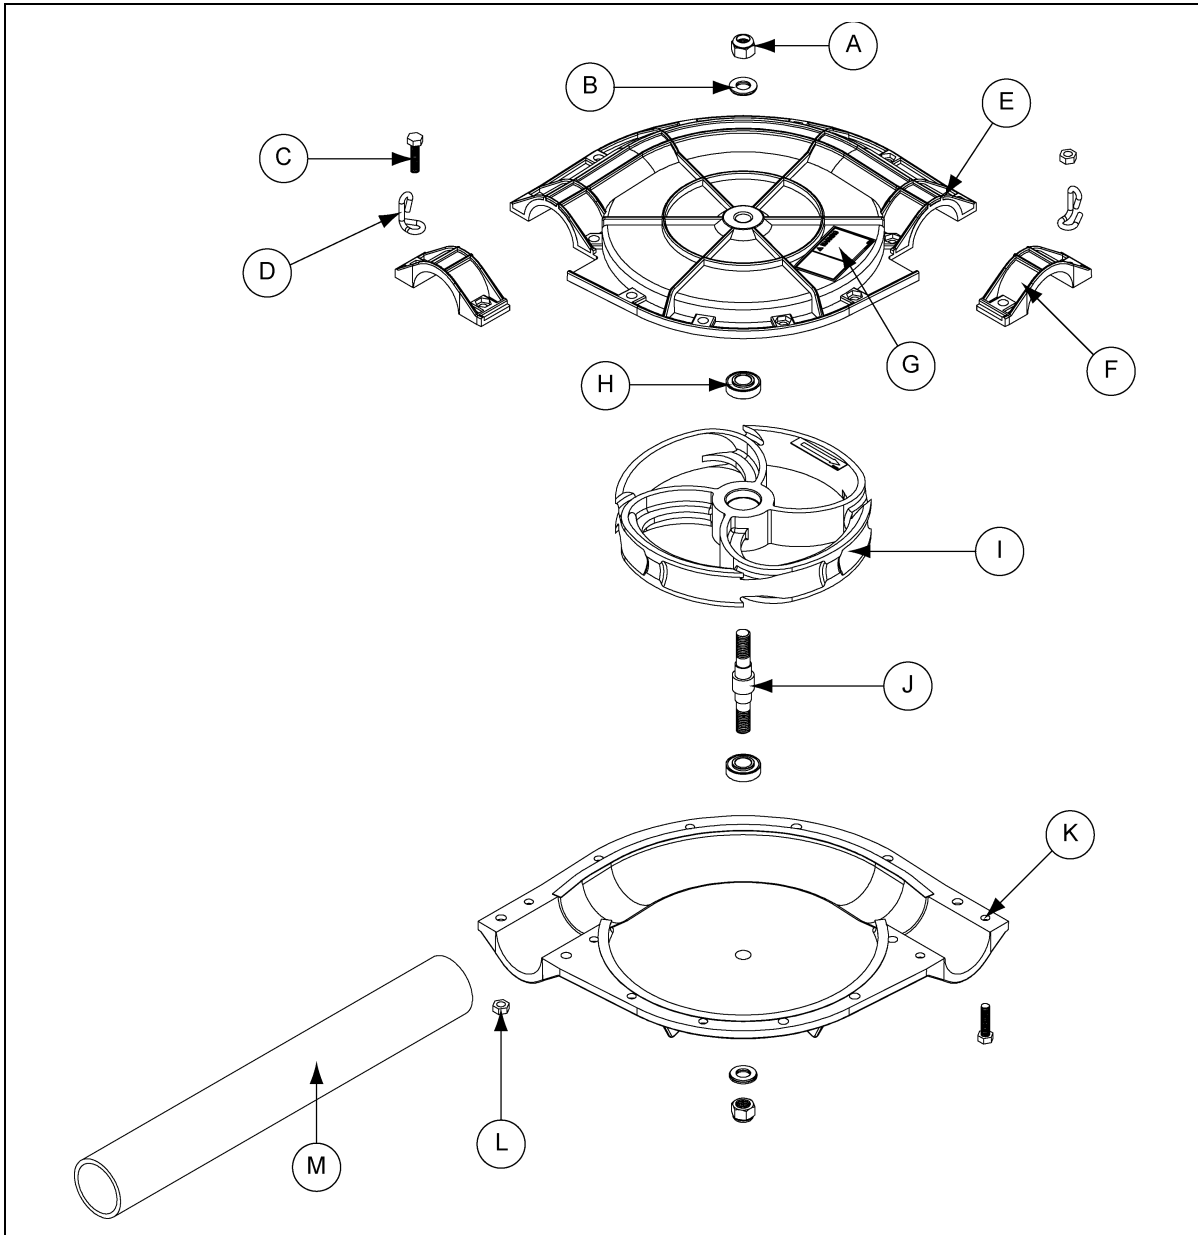

Figure 8B Vertical and Inclined Corner Installation and Suspension
2. Replace the 1/2" neoprene backed flat washer and 1/2" lock nut on the pivot shaft to retain the idler wheel from being pulled off during chain and disk installation. The top of the corner can remain off until after the chain and disks are installed. Corner must be suspended using the two (2) wire suspension angles provided to avoid tubing wear. Use one wire suspension angle on each side of the corner. (See Figure 8A below and Figure 8B on Page 27.) Place wire suspension angles over the add on clamps so that corners will be supported before tops are installed.